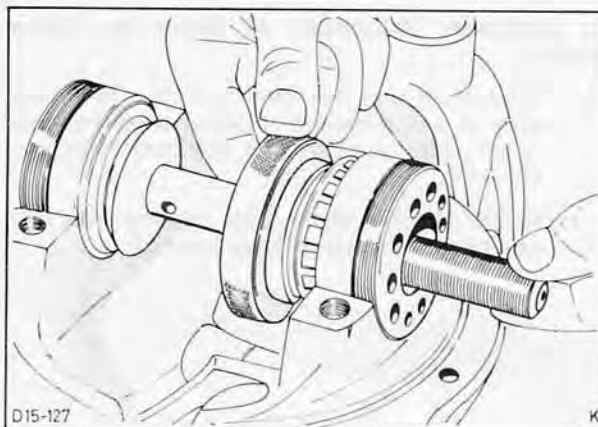

Fig. 110. Insert gauge bar
17. Insert gauge bar in casing with bearings to be installed and ring nuts, Fig. 110. Fit bearing caps ('R'/'L') and secure bolts with prescribed torque, slacken again and then do up finger-tight.